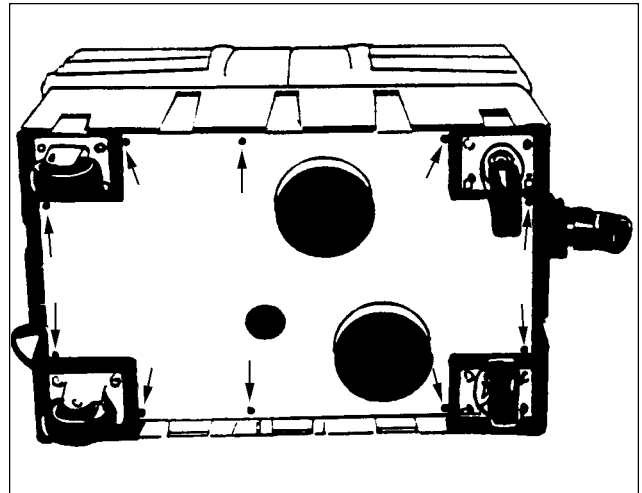

Figure 10
5. Remove the bottom panel from the machine. See Figure 10.